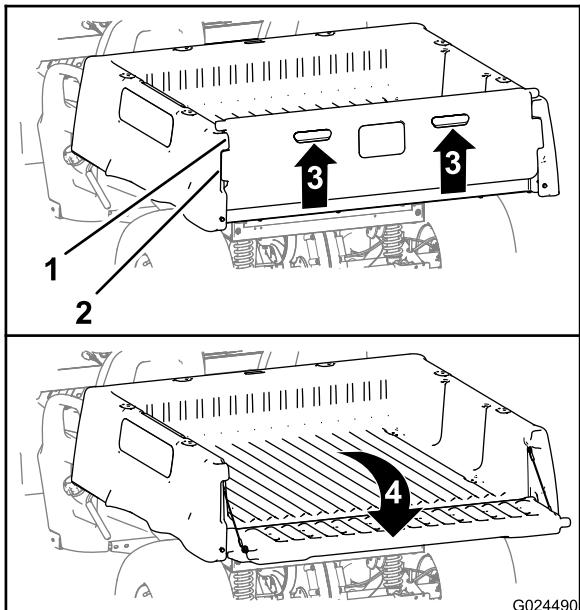

Figure 20
2. Lift up on the finger pulls at the back panel of the tail gate (Figure 20).
3. Align the lock flanges of the tailgate with the openings between the tailgate flanges of the cargo box (Figure 20).
4. Rotate the tail gate rearward and down (Figure 20).
6. Rotate the tailgate up and forward until the lock flanges of the tailgate are flush with the tailgate pocket in the cargo box (Figure 20).
7. Lower the tailgate until it is seated in the back of the cargo box (Figure 20).